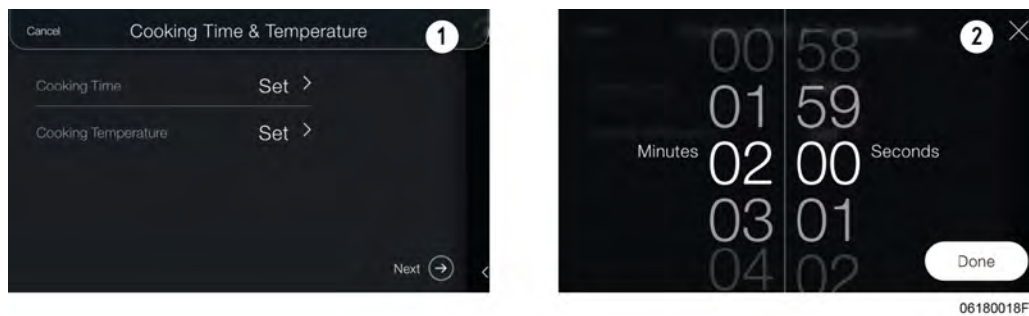

Figure 5-10
1. **Cooking Time** - Tap **Select**. Swipe up or down to select minutes and seconds, see Figure 5-10, page 45 (1) and (2). Tap **Done** to continue.